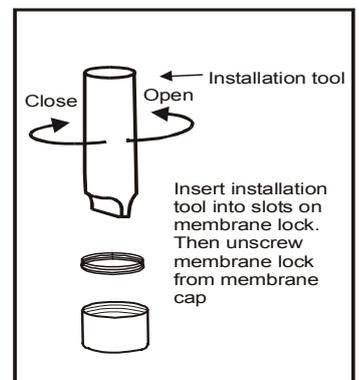

Figure 57: Use Tool to take out (or put in) membrane
4. Using the installation tool, unscrew and remove the membrane lock from the membrane cap. See Figure 57 on the following page.